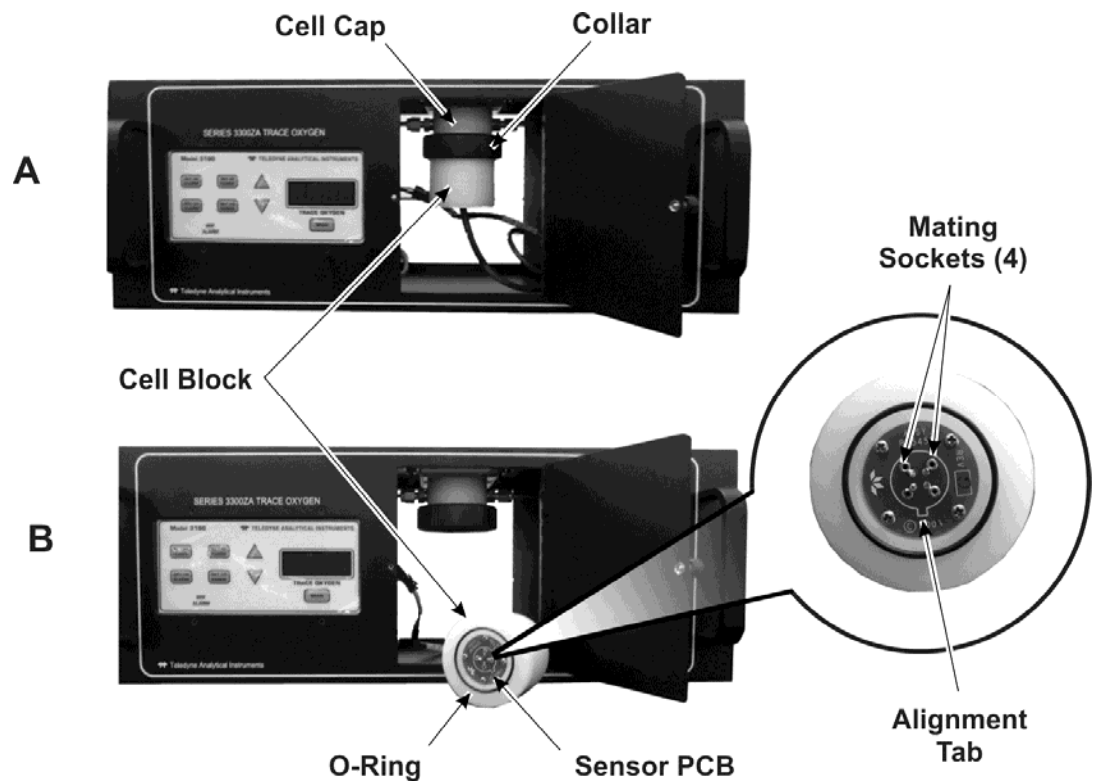

Figure 5-3 (A&B): Cell Removal/Installation
3. Unscrew the collar to separate the sensor cap from the sensor block. See Figure 5-3 (A).
4. Carefully lift up the ZrO₂ sensor off the PCB and replace with a new sensor. Align the tab of the sensor with the tab shown on the silkscreen of the sensor PCB as shown in the inset of Figure 5-3 (B). Make sure the pins on the sensor mate properly with the sockets on the PCB. Without touching the membrane surface, push the sensor down until the pins seat in the sockets.